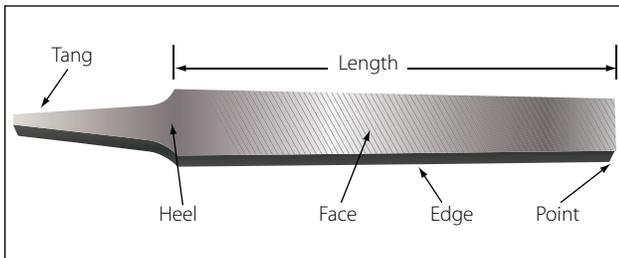

Figure 9-16. Hand file.
Files have three distinguishing features: (1) their length, measured exclusive of the tang [Figure 9-16]; (2) their kind or name, which has reference to the relative coarseness of the teeth; and (3) their cut.